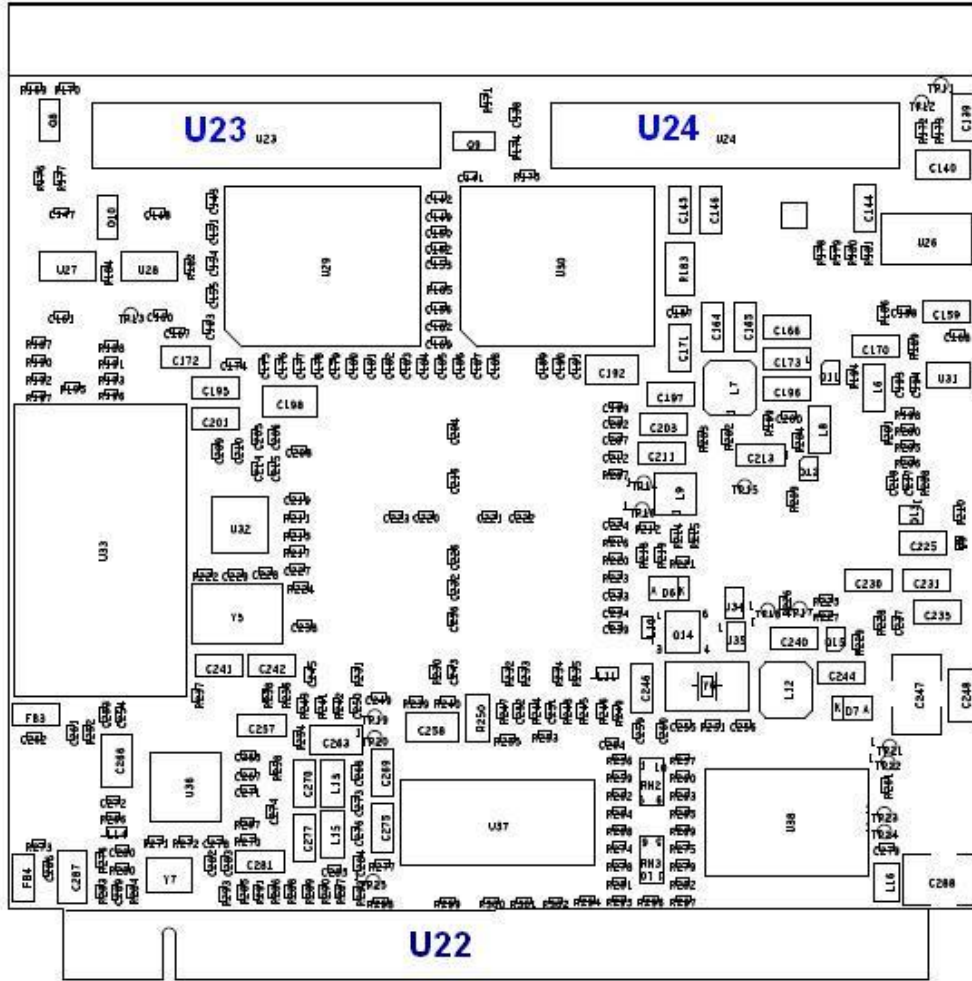

Figure 3: i.Mx51 Q7 Module Connector detail Bottom
| Figure 3: i.Mx51 Q7 Module Connector detail Bottom | 10 |
- Insert the Q7 module in to the MXM connector at an angle of 45° as shown in Figure 3.